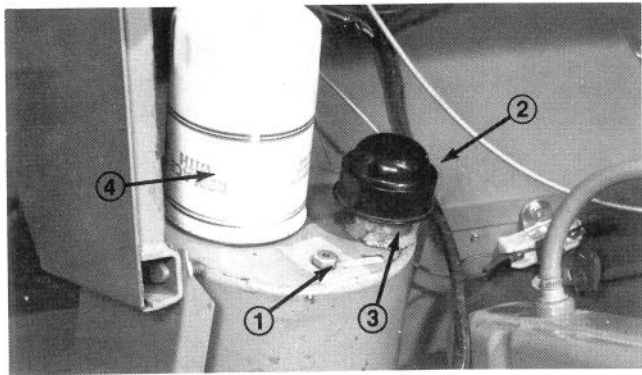

Figure 47
3. Free the dipstick with a 9/16 in. wrench and check oil level (Fig. 47).